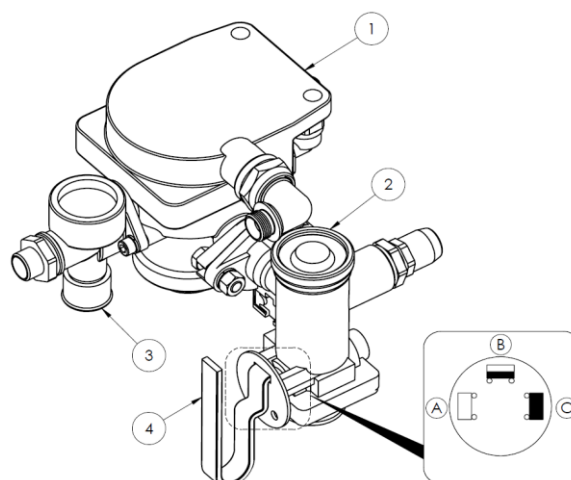

Figure 8 The control valve and brake-force-control system for 2-line pneumatic brakes
The braking-force-control system (2) in Figure 8 is used in the pneumatic braking system to adjust the braking force according to the degree of the structure load. Switching to the correct operation mode is done manually by shifting the position of the lever (4). It is operated by machine operators before they start driving. Three work settings are available - (A) "UNLADEN", (B) "HALF LOAD", (C) "FULL LOAD".